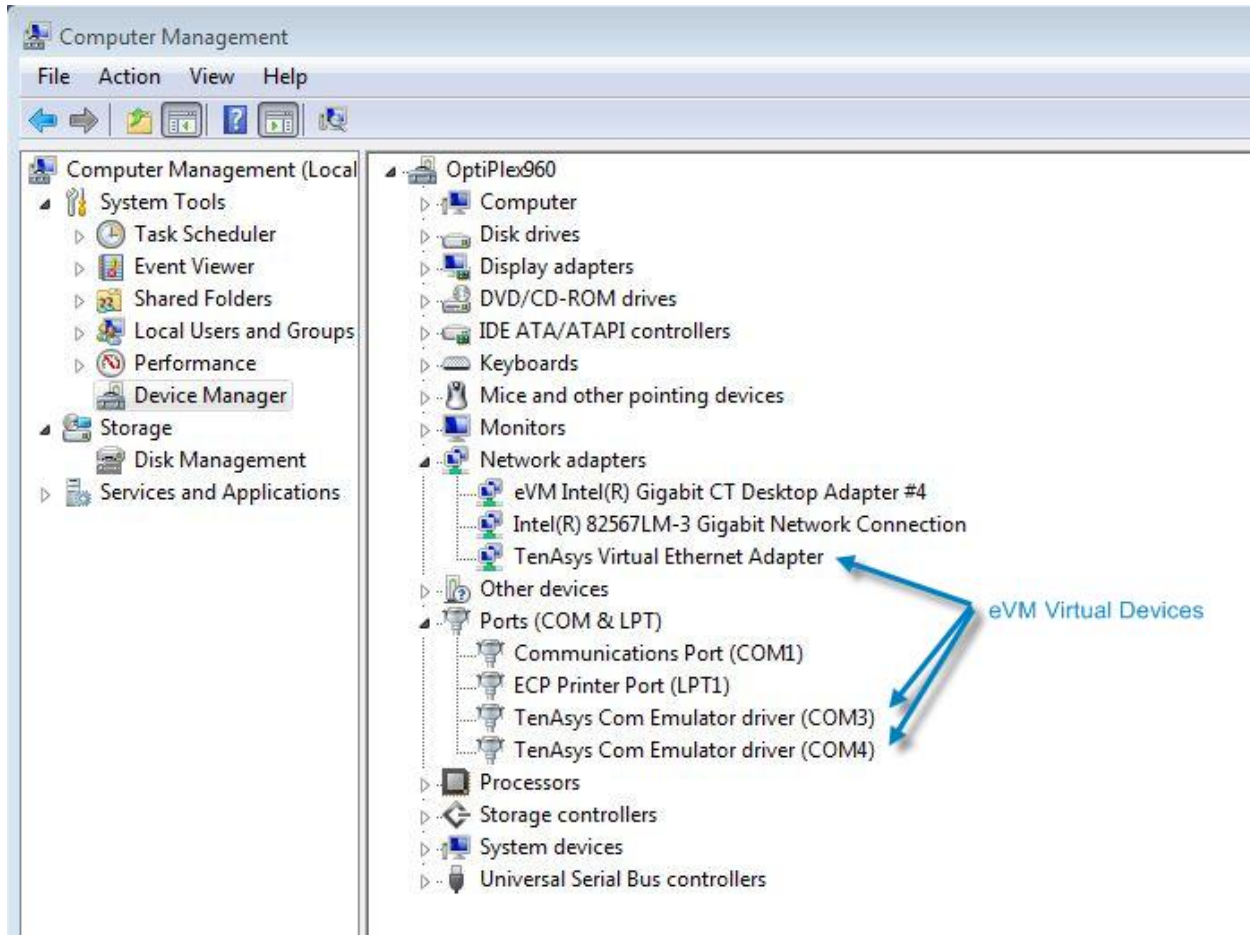

Figure 4.20 - Windows Device Manager
17. Finally, let's look at the devices that are now in the Windows host system. Open Windows Device Manager by going to **Start->All Programs->Administrative Tools->Computer Management** and click on **Device Manager** Figure 4.20.
1. In Windows, open a terminal emulator program, and configure it to connect to the first virtual COM device. Recall from Figure 4.20 that the first virtual COM device was COM3 in our example.